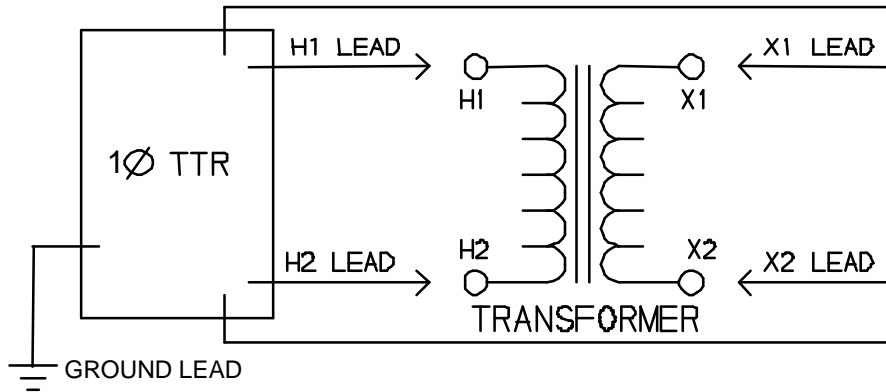

Figure 5-1. Setup for Testing Single-Phase Transformer
3. Connect the clips marked X1, X2 of the test lead to the corresponding (low-voltage winding) terminals of the transformer under test. Keep X3 clear of ground and test setup. Figures 5-1 and 5-2 show test setups for single-phase transformers.